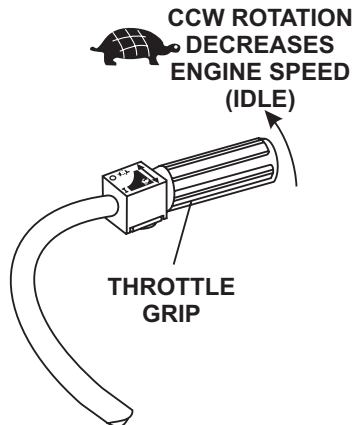

Figure 18. Throttle Lever (Turtle/Idle)
2. Rotate the throttle grip CCW to the “**TURTLE**” position (Figure 18) and run the engine for three minutes at idle speed.